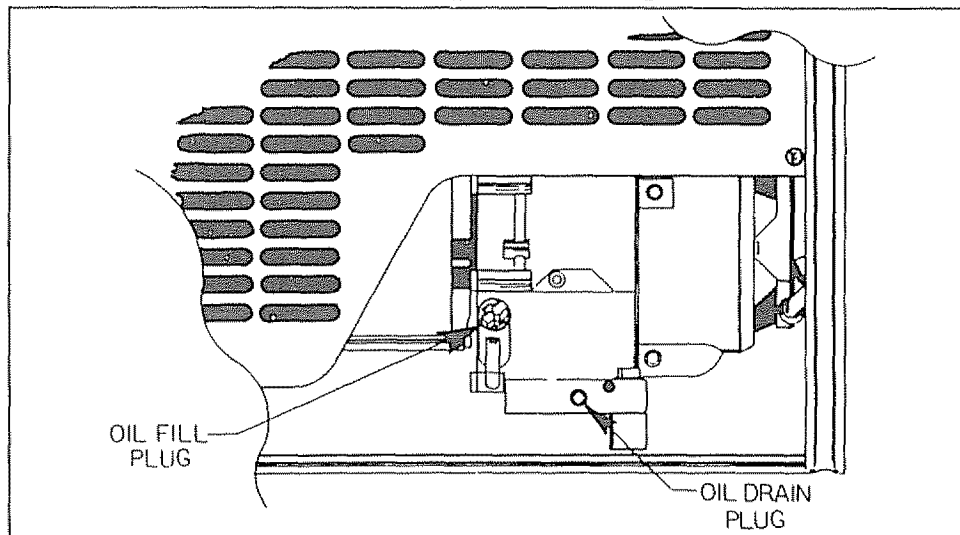

Figure 3-1. Engine OIL FILL and OIL DRAIN PLUGS
3.2- CHANGE ENGINE OIL (Figure 3-1)